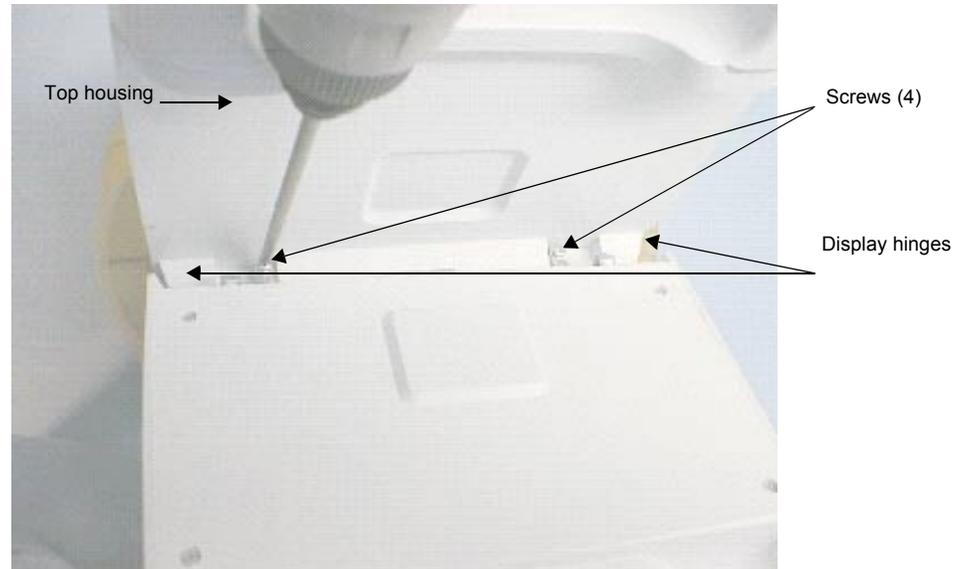

Figure 7.3 Removing the Display
8. Use a #1 Phillips screwdriver to remove the four screws securing the Display hinges to the top housing (Figure 7.3).
2. Use a #1 Phillips screwdriver to secure the four screws on the replacement Display hinges to the top housing (Figure 7.3). Torque screws to 6.1 in./lb (0.7 newton meter).